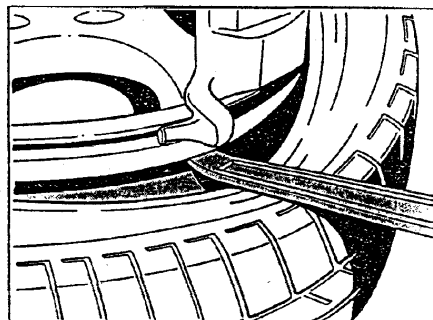

Figure 7
- When fitting 255/40 - 17" tires to an 8" wheel, the additional tire lever must be positioned below the hump (Figure 7).